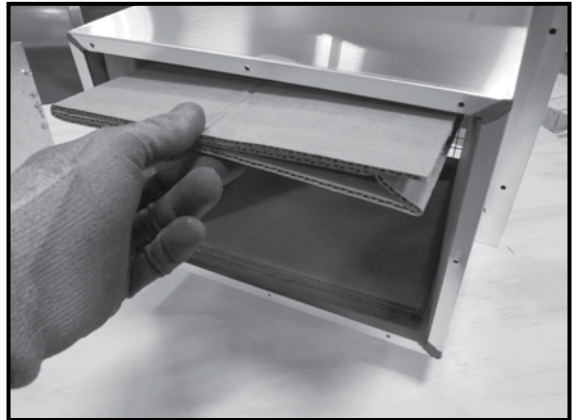

Figure 3.8
3. Remove the four corrugated shipping pads. See Figure 3.8.